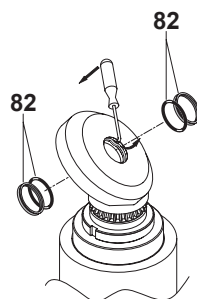

Fig. 9.06
9.3.03) Using the dedicated tool, remove the seals and the o-rings pos.82 from their seats (Fig.9.06).